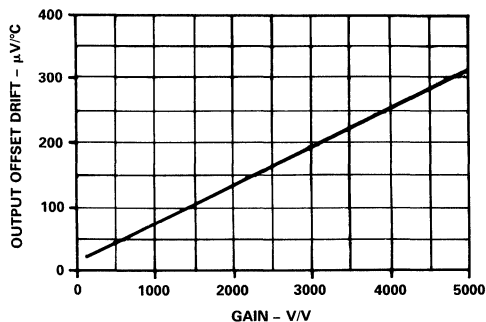

Figure 7. Total Output Offset Drift vs. Gain
**Input Offset Voltage Drift:** The chopper front end of the 1B32 gives it excellent input offset stability. As shown in Figure 7, it typically exhibits drift of ±0.07µV/°C RTI at a gain of 1000V/V (±75µV/°C RTO). The measurement is two-point, and is taken at -25°C and +85°C, which covers the specified temperature range of the 1B32.